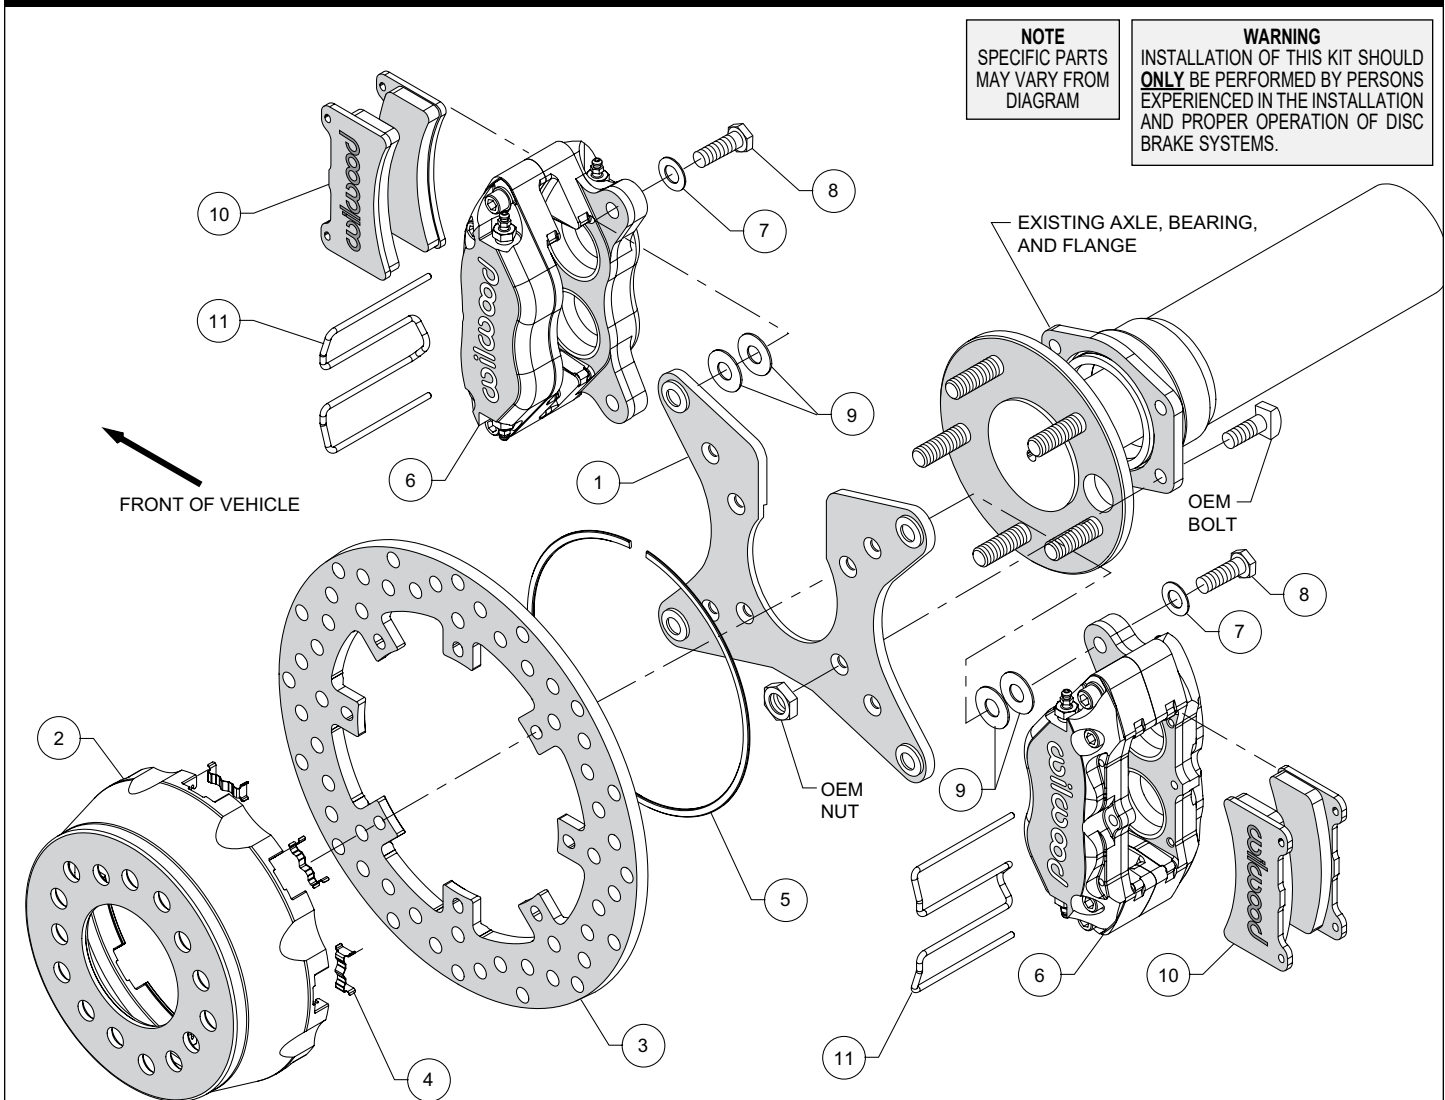

Figure 1. Typical Installation Configuration
**Assembly Instructions** (numbers in parenthesis refer to the parts list and Figure 1 on the preceding pages): **CAUTION:** All mounting bolts must fully engage clinch nuts. Be sure to check that all bolts are either flush or protruding through flanged side of clinch nut after shimming, Figure 5.
- Install the caliper mounting bracket (1), with the slot for the axle pointing upward, to the housing flange using the OEM bolts and nuts, as shown in Figure 1 and Photo 1. Ensure that the caliper mounting ears on the bracket are oriented fore and aft on the car, with the heads of the clinch nuts facing outboard, Photo 1. Apply red *Loctite*® 271 to the OEM bolt threads and torque to OEM specifications.
- Insert the dynamic mount wear plates (4) into the slots in the hat (2) making sure the tabs snap in place, Photo 2. Orient the rotor (3) as shown in Figure 1 and Photo 3, with the flush mount tab side facing the hat. Attach the rotor to the hat using snap ring (5) by pushing down on the rotor and installing the ring into the groove in the hat, as shown in Photo 4. Ensure that the ring is fully engaged in the groove.
- Align the correct hole pattern in the hat (2) with the axle stud pattern and slide the hat/rotor assembly onto the axle hub. **NOTE:** The hat must fit flush against the axle flange or excessive rotor run out may result. Install three lug nuts (finger tight) to keep the hat/rotor in place while continuing with the installation. **NOTE:** Some OEM and aftermarket axles come with stud sizes larger than 0.50" diameter. Verify stud size, and if necessary, have a qualified machine shop drill the hats to the correct size.
- NOTE:** Please reference the caution statement at the beginning of the assembly instructions. Mount one caliper (6) onto the mounting bracket (1) using bolts (8) and washers (7), as shown in Figure 1. Initially place two .035" thick shims (9) on each bolt between the caliper and the bracket, Photo 5. Temporarily tighten the mounting bolts and view the rotor (3) through the top opening of caliper. The rotor should be centered in the caliper, Photo 6. If not, adjust the caliper by adding or subtracting shims between the bracket and the caliper. Always use the same amount of shims on each of the two mounting bolts. **NOTE:** The end of each bolt must be flush with or slightly protruding from the head of the clinch nut. If necessary, place spare shims between washer and caliper mounting ear to achieve the proper clinch nut engagement, as shown in Figure 5. Once the caliper